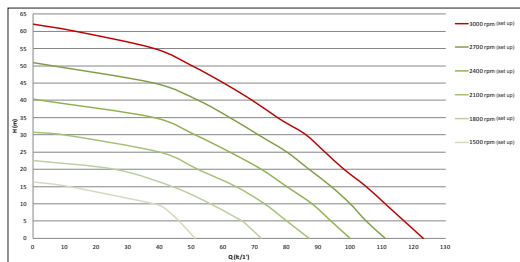
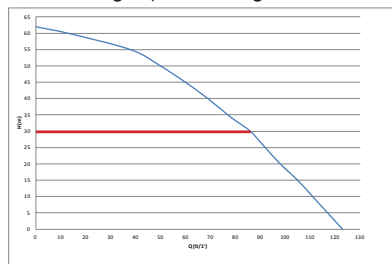

Figure 6
Figure 7
The graph in Fig.6 shows in red the characteristic curve of the hydraulic performance of the electropump at maximum rotation speed (pump not controlled by the inverter). This gives:
The same graph in Fig.6 shows in green other characteristic curves corresponding to reduced rotation speeds of the same electropump. By automatically modulating the rotation speed of the electropump, the inverter allows it to move its operation from one of the characteristic curves to another, maintaining the constant set pressure value (SP). Practically, the resulting curve of the system controlled by the inverter becomes the one shown in Fig.7 (considering a default SP value = 3.0 bar).